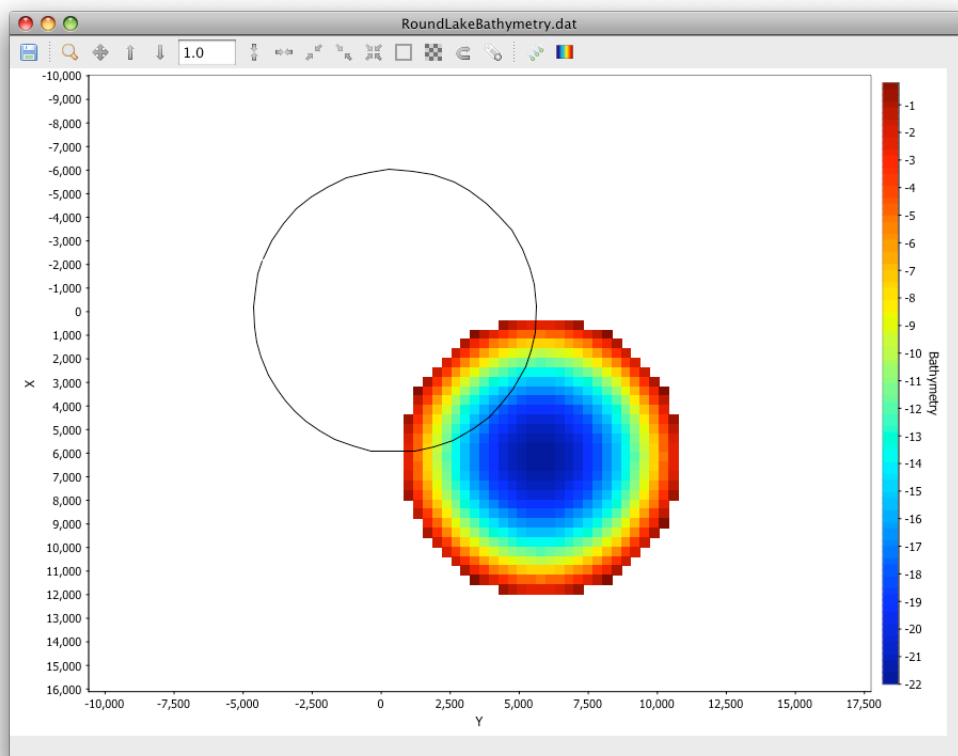

Figure 4.9 ELCOM Bathymetry Editor showing a Google Earth Generated KML file.
**Load KML file** will load in a Google Earth generated KML Outline file and plot it as a black line in the Bathymetry Editor Window (Figure 4.9). The **Geo-Reference Bathymetry** action can then be used to adjust the latitude and longitude of the bathymetry file to match up with KML file. The basic steps for geo-referencing a bathymetry file are